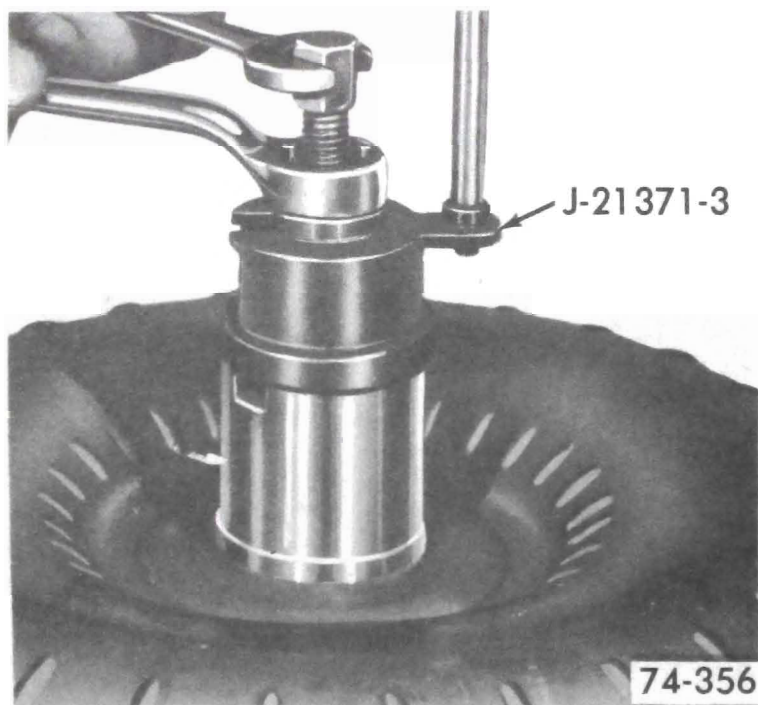

Figure 75-285
2. Install Tool J-21371-3 and tighten hex nut. See Figure 75-285.